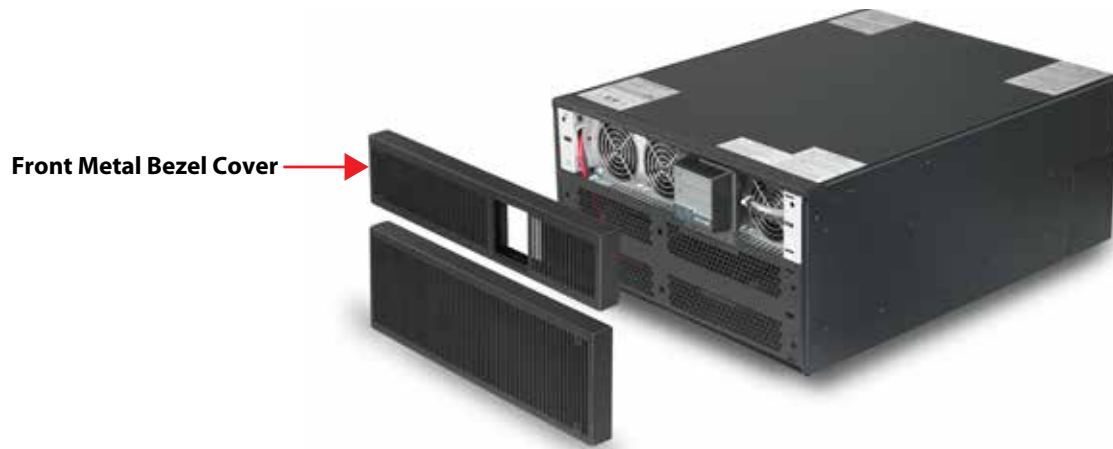

Figure 7: Remove the front metal bezel covers
- a. Remove the front metal bezel covers as shown in Figure 7.